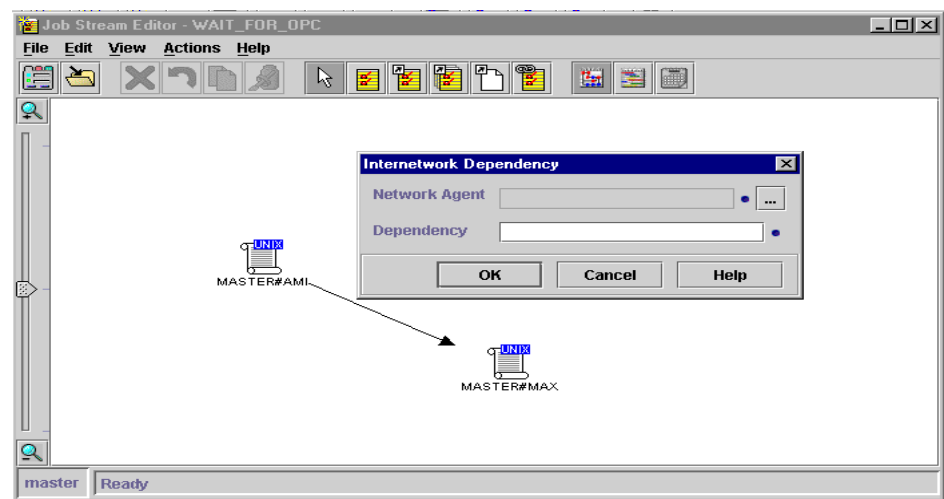

Figure 212. Finding the Network agent
2. Select **OS/390 Extended Agent workstation** as shown in Figure 212.